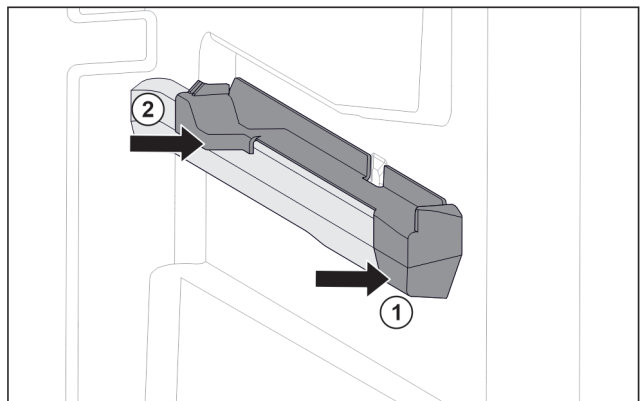

Fig. 119 Attachment on the right moulded rib
- ▶ Position attachment on moulded rib at the front. Fig. 119 (1)
- ▶ Press on attachment at the back. Fig. 119 (2)